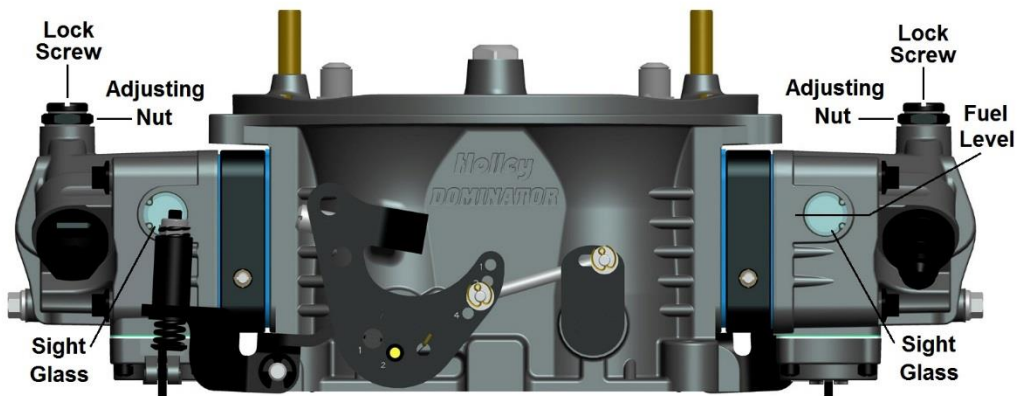

Figure 1
2. The fuel level in the clear sight glass should be mid-level to slightly below center for correct float adjustment. Depending on the type of fuel used, float level may or may not need to be adjusted. See Figure 1 and 1a.